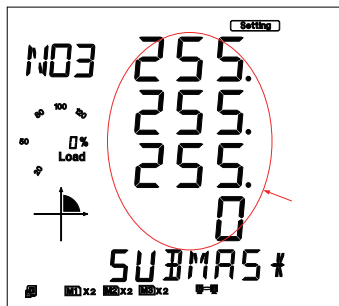

Fig 5-31
5. Set Subnet Mask in the third setting page, such as 255.255.255.0. Press "V/A" key to go to the setting page. Users may set the parameters in the area pointed out in Figure 5-31. The cursor starts at the first digit. After setting the Subnet Mask, press the "V/A" key to accept. Press the "P" key again to go to the fourth setting page for Gateway.